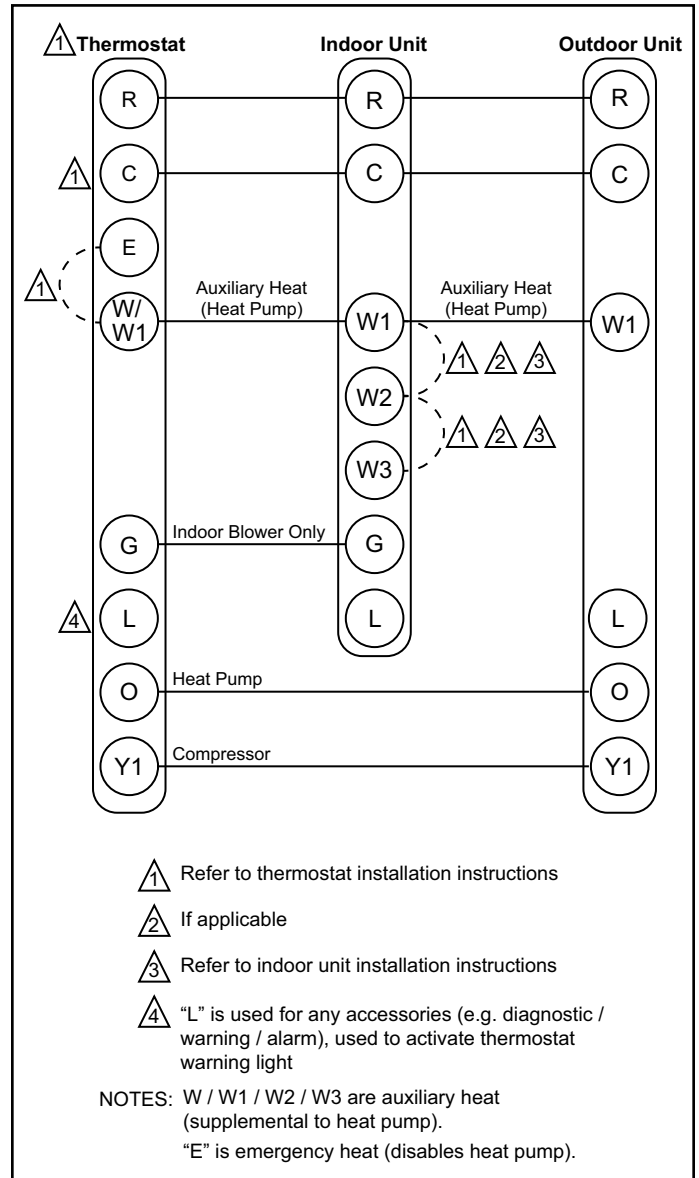

Figure 6. Thermostat Designations - Non-Communicating
4. Install low voltage wiring from outdoor to indoor unit and from thermostat to indoor unit (see Figure 6).